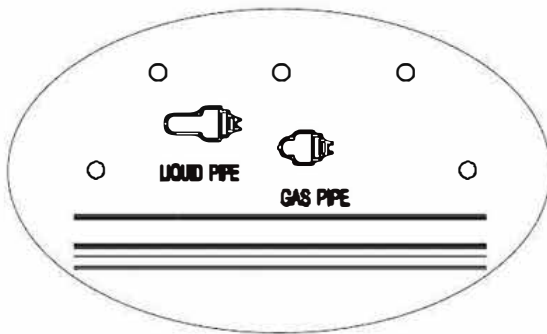
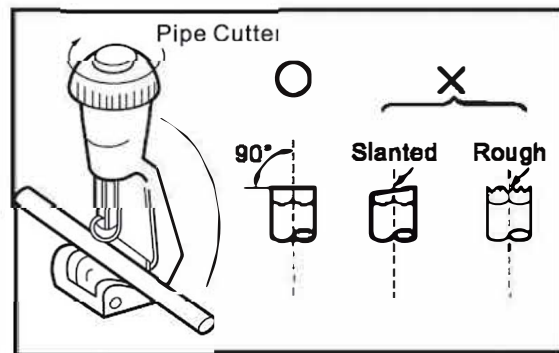

Fig. 408
Fig. 409
- 1) Cut the liquid pipe and gas pipe to the right length according to the position mark on the wall mounting plate (Fig. 408). Ensure that the cut is flat (Fig. 409).